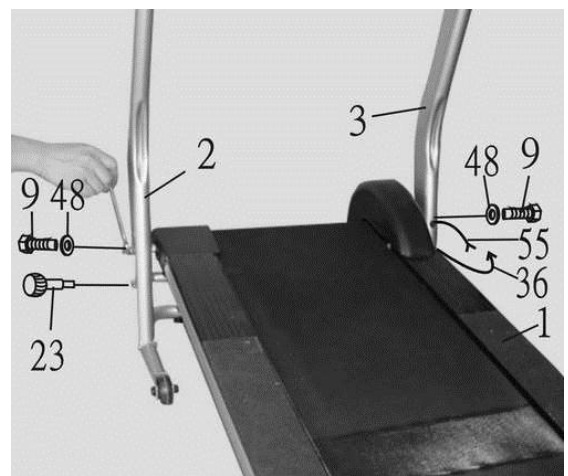

Figure 3
Raise up the front part of Main frame (1) by two people. Attach the front part of Main frame (1) to Left and Right handlebar supports (2,3) with two Connection bolts (9) and Flat washers (48). Attach the Lock Knob (23) to the lower hole at the Left handlebar (2) and secure it with the Main frame (1). Connect the Sensor wire (55) from the Right handlebar support (3) to the Sensor (36) from the Main frame (1). (See figure 3)